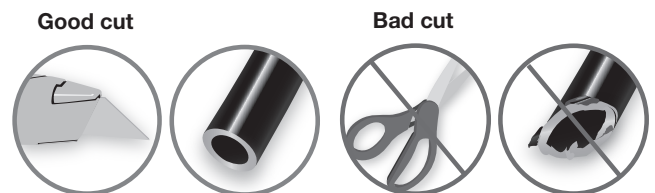

Fig. 12
2. If installing a single-path air line, choose a location for the tee fitting (J) on the cross member as noted in step 6. Determine and cut adequate length of air line (C) to reach the tee from left and right side air springs. Make clean, square cuts with a razor blade or hose cutter (Fig. 12). Do not use scissors or wire cutters.